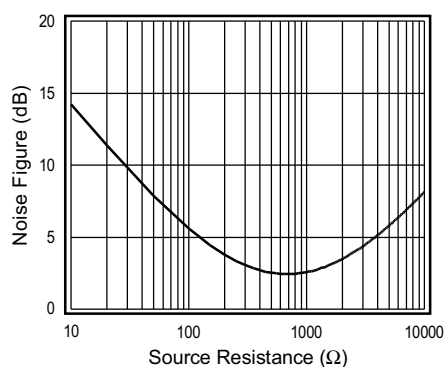

Figure 7. Noise Figure Plot
In RF applications, noise is frequently specified as Noise Figure (NF). Figure 7 plots NF for the CLC449 at a gain of 10, with a feedback resistor R_f of 100 Ω , and with no input matching resistor. The minimum Noise Figure (2.5dB) for these conditions occurs when the source resistance equals 700 Ω .